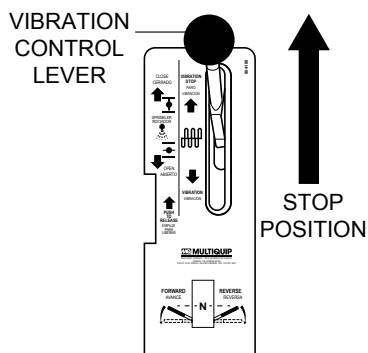

Figure 29. Vibratory Control Lever (OFF)
1. Place the vibration control lever (Figure 29) on the roller to the **OFF** position (vibration stops).